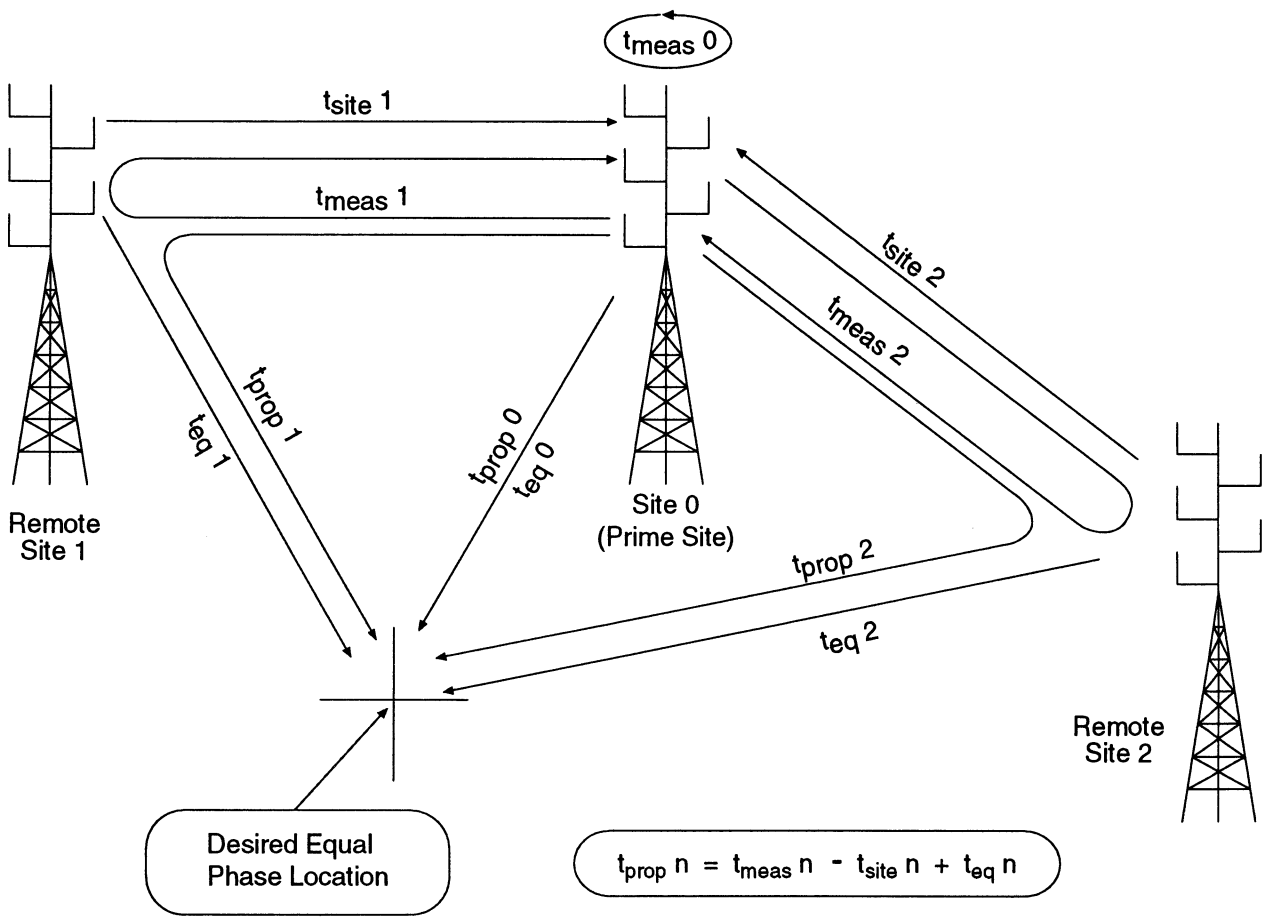

Figure 35. System Phasing Area
Step 50. For each site, use the following formula to compute the propagation time for the signal as it passes from the prime site, through site n, and to the desired equal phasing area. Refer to Figure 35 for an example phasing area.